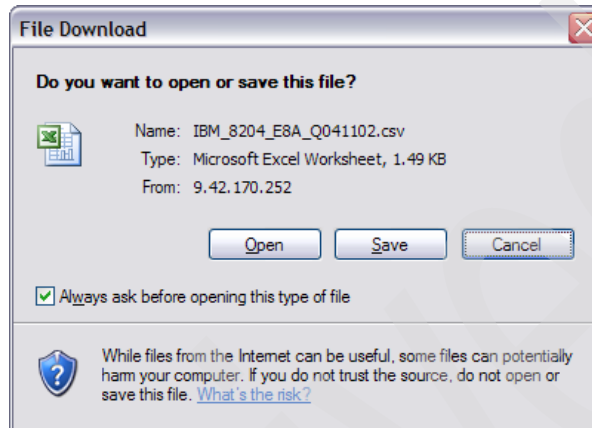

Figure 6-53 Exporting data in Microsoft Internet Explorer
- For Microsoft Internet Explorer, the window shown in Figure 6-53 opens. You can then choose to either open the .CSV file in Microsoft Excel or save the file to a location of your choosing.